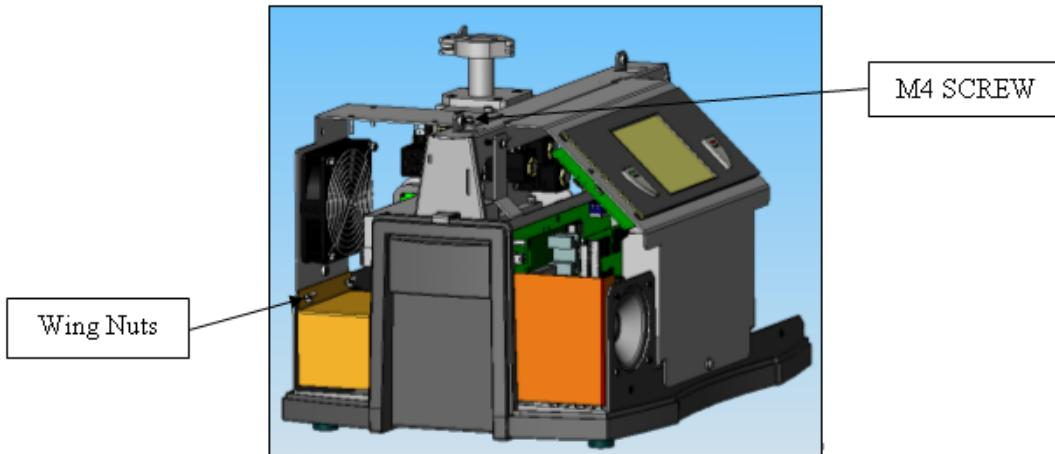

Figure 2: Fan Assembly and Socket Head Cap Screw
6. Detach the fan assembly by removing the M4 socket head cap screw and loosening the two wing nuts (Figure 2: Fan Assembly and Socket Head Cap Screw). Place the fan assembly on a flat surface on its back.
- Reinstall the fan assembly by tightening the M4 socket head cap screw and the two wing nuts (Figure 2: Fan Assembly and Socket Head Cap Screw).